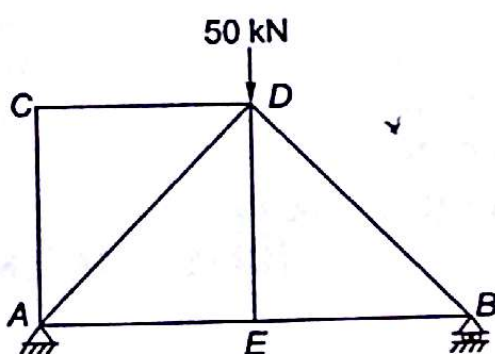

Fig. 4.49
4.20 In a truss work as shown in Fig. 4.49, what is the force in the member DE?